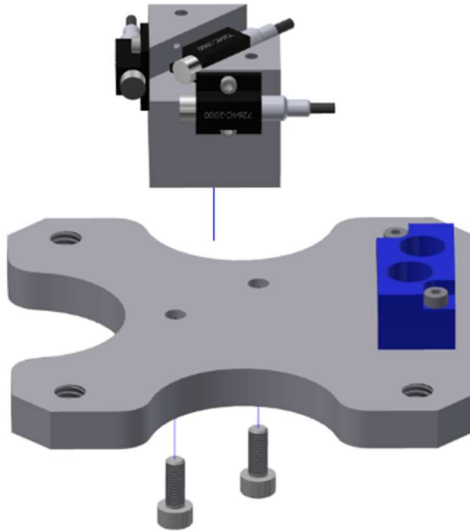

Figure 3-24. Head accel mount and sensor mounting plate
- 3.3.4 Install the accel mount (SA572-S167) onto the sensor mounting plate (474-1031) using two M3 X 0.5 X 8 LG. SHCS through the bottom side of the sensor mounting plate (Figure 3-24).